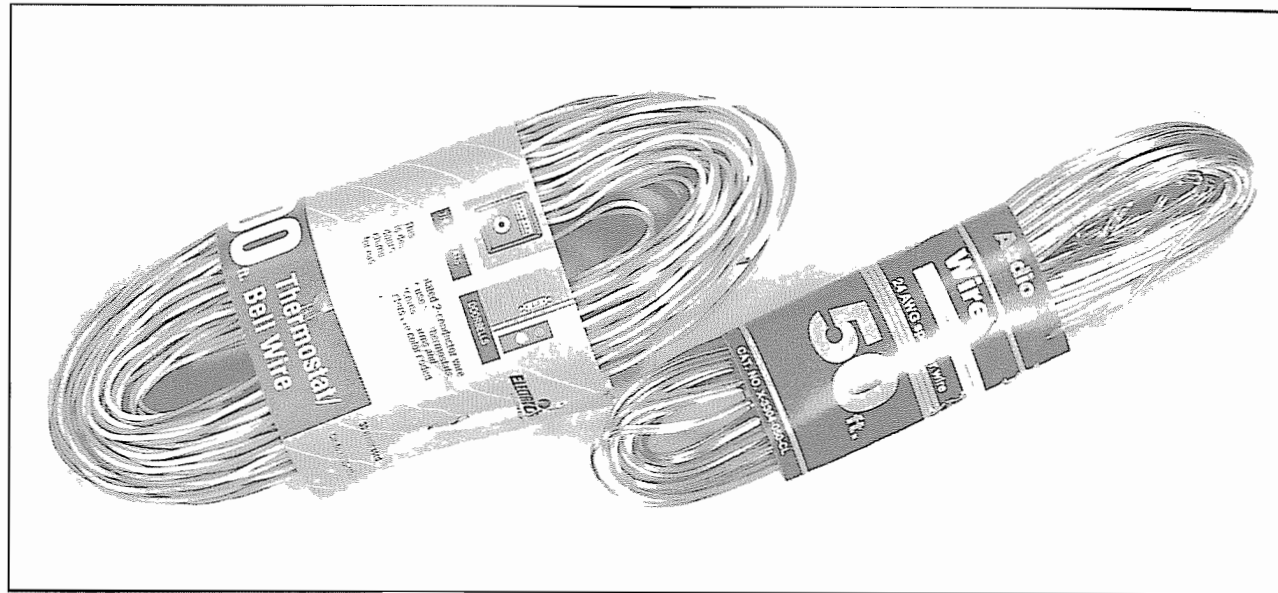

Figure 17-2. Hanks of doorbell wire (left) and stereo speaker wire (right). You can buy them at a hardware store.
**Thermostat-doorbell wire** and **stereo speaker wire** (Figure 17-2) are sold by the foot and by the roll at hardware stores. The doorbell wire is made from a twisted pair of stiff, single strand wires with red and white plastic coatings. The stereo speaker wire looks like regular lamp cord, but it's thinner. It is typically called "18-2". It is also coated with plastic, and the wire inside is fabricated from multiple strands of very thin wire, which you can unravel, and use for the fuse wires in these igniters.